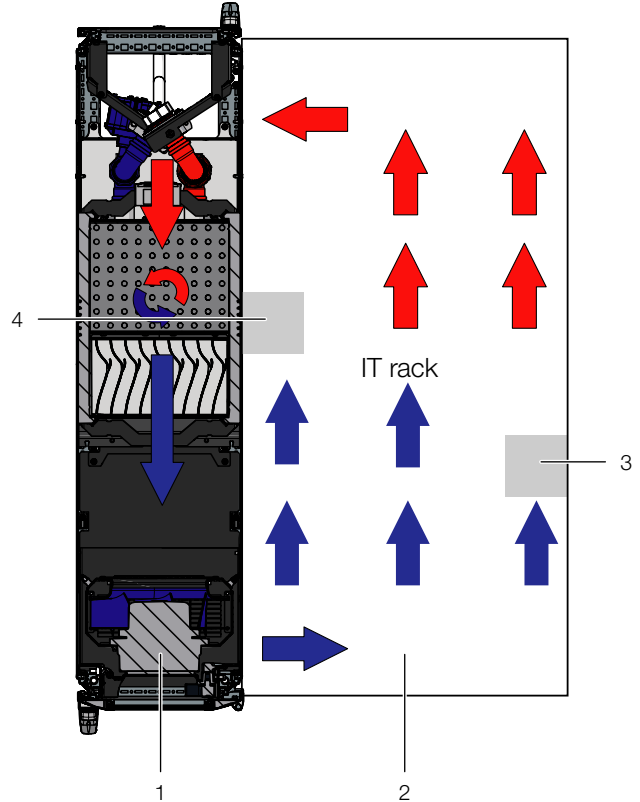

Fig. 15: Placement of foam strips for devices with sideways air throughput (top view) – LCP Rack DX
- If several devices which require sideways air throughput are included, cut out several pieces of the foam strip, as is appropriate, so that, ultimately, there is a cut-out in the foam to the left or right at the height of each such device in the server rack. Ensure that there are no gaps on the hot air side of the devices (fig. 15, item 4).
- Attach the foam strips to the cold air side of the devices set back towards the rear (fig. 15, item 4), making sure that all fans built into the devices can draw air and that none of them are blocked.
The foam strips can be attached between the front and rear uprights of the server rack along the entire depth of the devices with sideways air throughput (fig. 15).